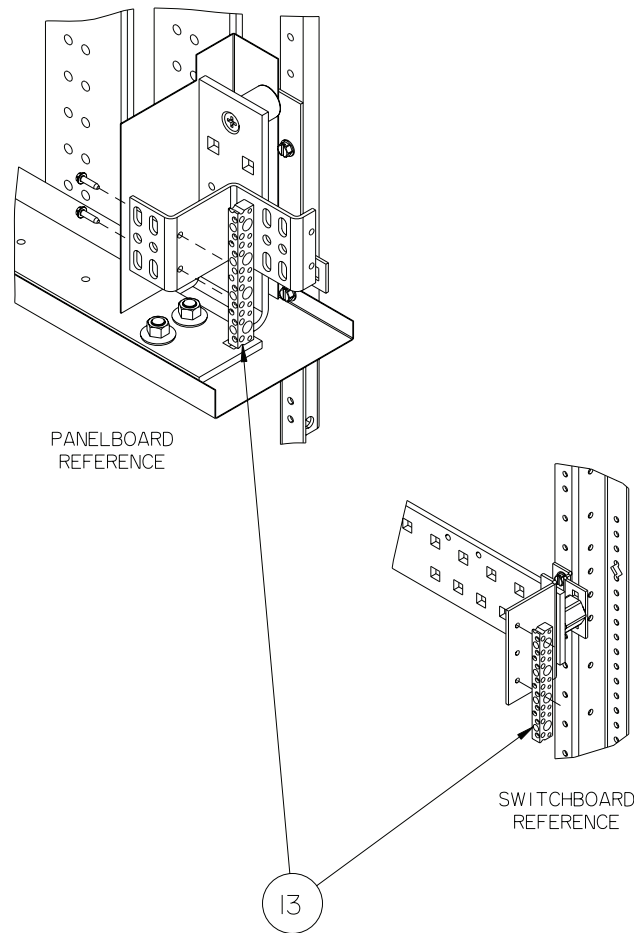

Figure 9
9. Reference fig. 9 - Installing the neutral lug assembly (item 13). The branch neutral can be mounted at the bottom of the z-rails or mirrored to the top depending upon the feed location. The neutral lug assembly (item 13) can be mounted (as shown) on either side of the branch neutral depending on feed location. Torque all hardware as specified on the rear of the deadfront.